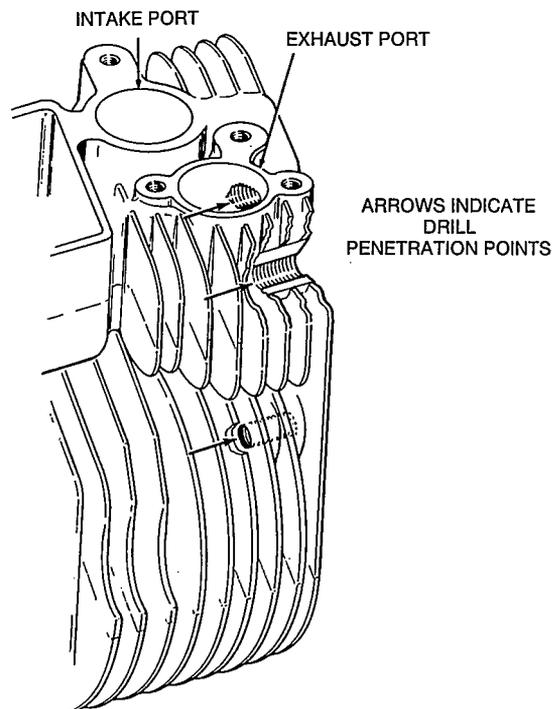

FIGURE 70. DRILLING PROCEDURE
- Insert the small size bushing into the fixture over the hole(s) with damaged threads and lock it in place. With the brushing as a guide, drill out the damaged threads using a 27/64 size drill bit. If drilling out the holes on the SIDE of the block, drill through to the fourth fin (see Figure 70). If drilling out the holes at the TOP of the block, it will be necessary to remove the corresponding intake or exhaust manifold. The drill bit should penetrate completely into the port but should not contact the opposite wall of the port (see Figure 70).